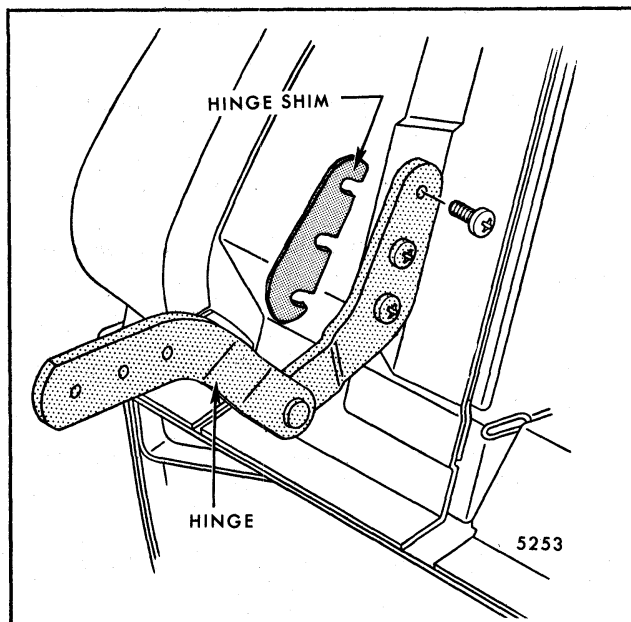

Fig. 7-105-Tailgate Hinge Assembly
2. Remove tailgate hinge attaching bolts from tailgate and body and remove hinge (Fig. 7-105).
Up-down and fore-aft adjustment is provided at hinge to gate attaching bolts. Side to side adjustment is achieved at hinge to body attaching bolts with spacer(s) (Fig. 7-105). Use spacer(s) provided or substitute with 1/2" inside diameter plated flat washer 1/16" thick at each hinge attaching bolt location on affected side.